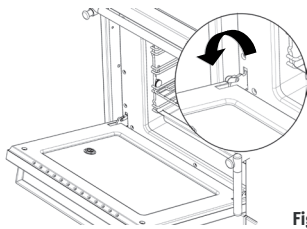

Fig. 66
- Fully open the oven door. Fold the clips in the door hinges forward (Fig. 66).